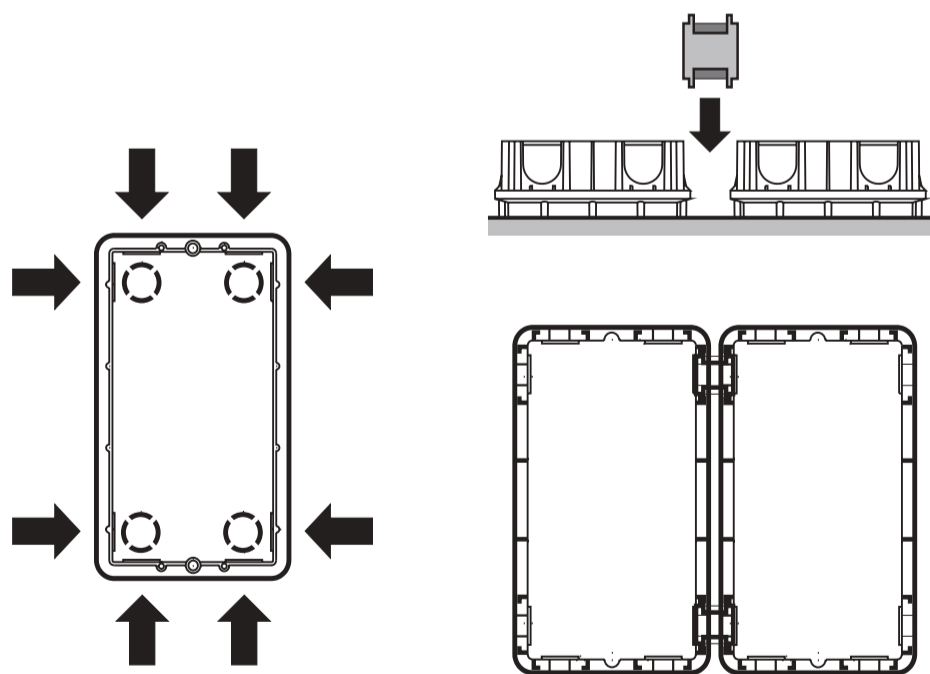

Fig.1a
- when necessary assemble more recessed boxes as shown in figure 1a